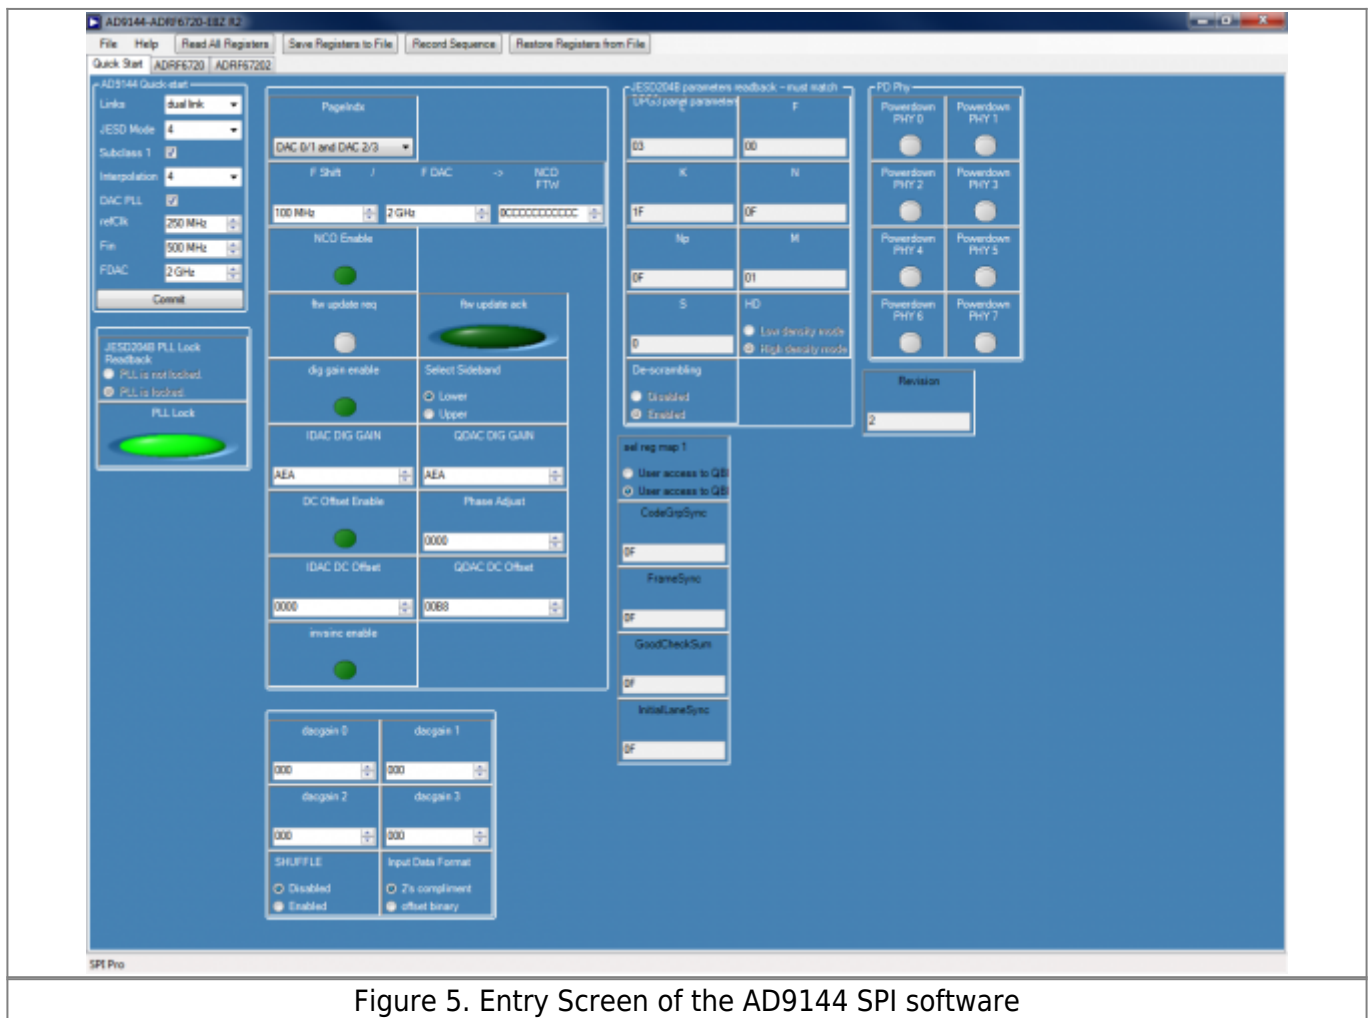

Figure 5. Entry Screen of the AD9144 SPI software
1. Open the AD9144-6720 SPI application (Start > All Programs > Analog Devices > AD9144 > AD9144 SPI). The screen should look similar to Figure 5.
a. Open the AD9144 customer SPI software and go to the Quick Start tab. (See Figure 5.) The parameters in the top left corner need to be selected in the Quick Start List in the panel. The Links should be set to dual link, mode (which is the interface mode) set to 4, Subclass 1 box checked, Interpolation set to 4, the DAC PLL box checked, REFCLK = 250Mhz Fin =500MHZ and FDAC set to